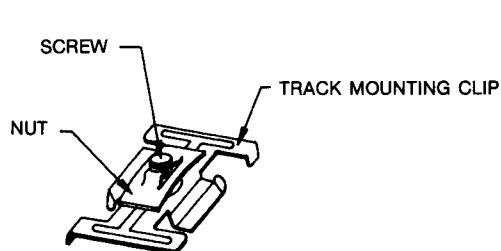

FIG. 2
3. Thread the NUT to the top of the screw. See Fig. 2.